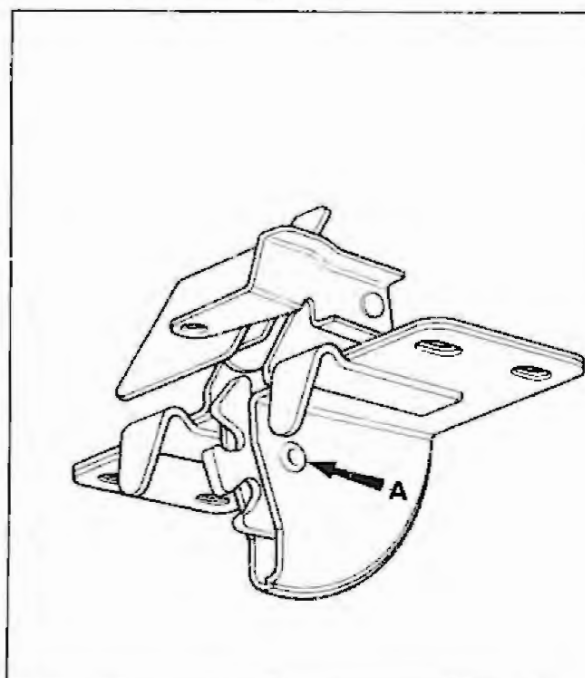

Fig. 1
- 1 Before commencing the following procedure check the luggage compartment lock to ensure that it has not previously had a new latch fitted (see figs. 1 and 2).
- 2 If a new latch has not previously been fitted, drill out the peened-over end of the pivot pin on the latch, taking care not to damage the main latch pressings (see fig. 1).